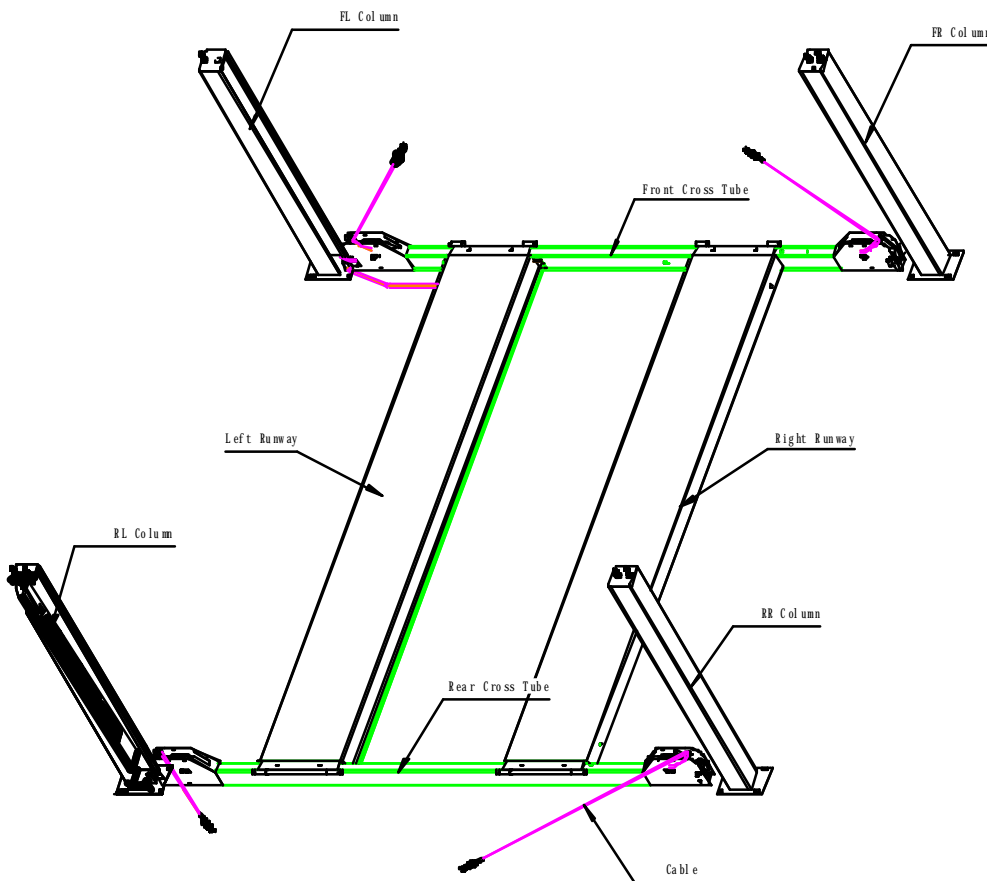

Fig.9
- I Place the power unit column at the FL (front left) corner of the lift. The hydraulic cylinder connection in the left runway should be visible from this corner. Position other three columns.(Fig.9)